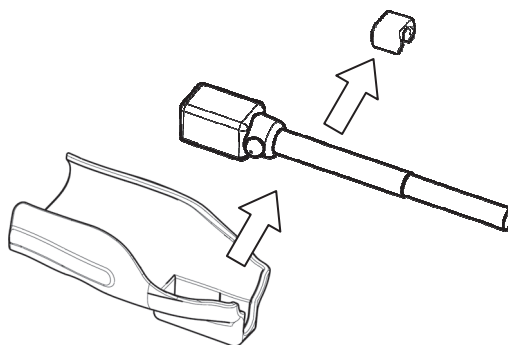

Fig. 9 How to release the EZU-RV2S from the Magnetic sensor attachment
- 2) Release the magnetic sensor from the magnetic sensor attachment as shown in Fig. 9 and release the spacer for RV2S from the magnetic sensor.